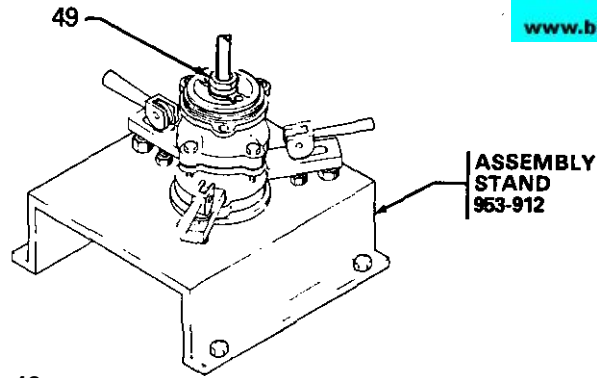

Fig 10
1. Support the pump in a vertical position on the accessory assembly stand 953-912 **which should be bolted to the floor for stability**. Lock the pump in place. Refer to Fig 10.
3. Remove the capscrews (17) at the top flange of the impeller bowl (54). Refer to the Parts Drawing.
4. Lift the pump base (46) straight up, off the shaft (50). Avoid bending the shaft by unequal pulling with a hoist or pry bars.
- a. Hold the first impeller with a spanner wrench 953-913 and use a close fitting wrench to loosen the impeller nut (49) one and a half turns. Refer to Fig 10.